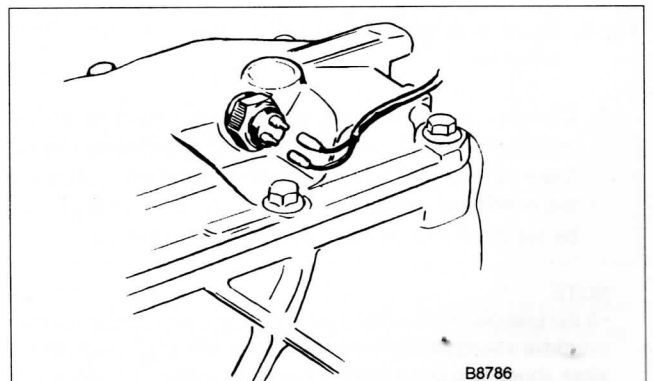

Fig. 7. Back-up light switch at left side of transmission top cover.
2. Remove and replace the switch. Use a 22 mm (7/8 in.) wrench. See Fig. 7.